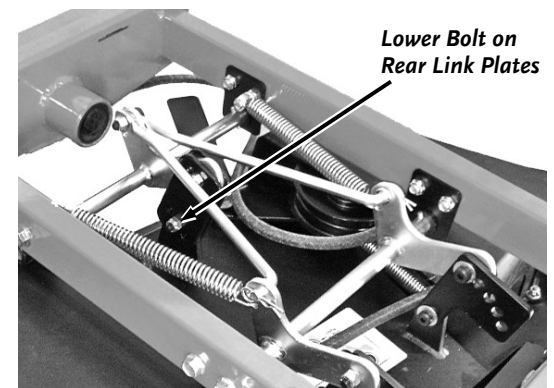

Figure 13
4. Remove the lower Bolt on the Rear Link Plates (**Figure 13**) and swing the Link Plates out of the way so the Belt clears. Remove the Belt.